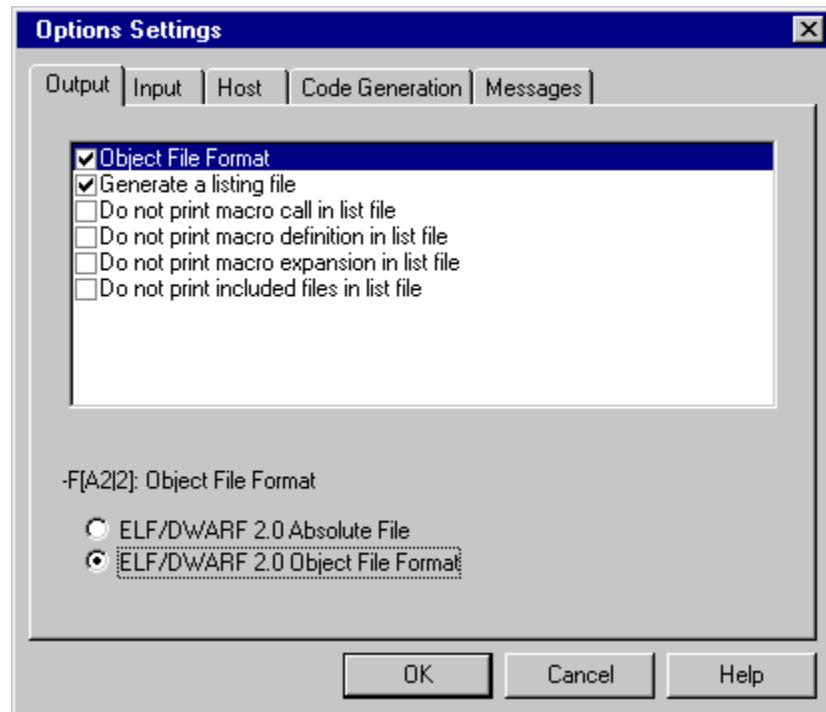

Figure 1-7. Selecting an Object File Format
3. In the **Output** folder, select the check box in front of the label **Object File Format** shown in Figure 1-7. Select the radio button **ELF/DWARF 2.0 Object File Format** and click **OK**.